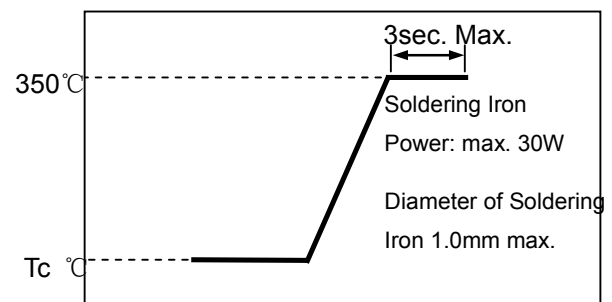

Fig. 11.2-1
- 7) Please refer to Fig. 11.2-1.